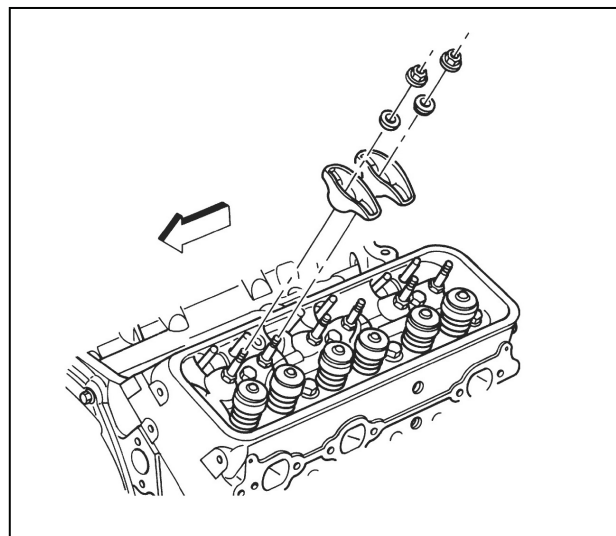

Figure 12-88 Valve Rocker Arms and Components
5. Valve rocker arm nuts onto the studs (figure 12-88). Align the push rod into the valve rocker arm while tightening valve rocker arm nut. No lash adjustment is needed.